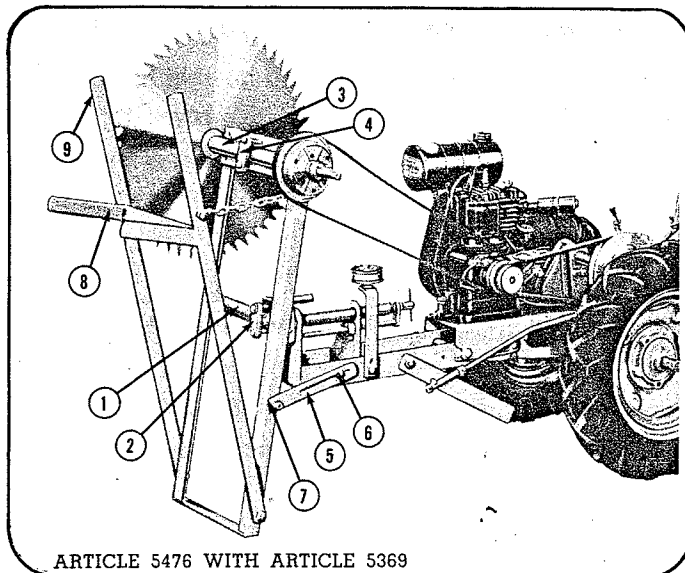

Figure 3
2. Loosen arbor clamp bolts and remove arbor. Place cradle tube (1, Fig. 3) in arbor clamp (2, Fig. 3), keeping cradle as far to the right as possible and tighten clamp bolts. See Fig. 3.
3. Place arbor (3, Fig. 3) in arbor clamp (4, Fig. 3) on top of cradle and adjust arbor pulley to line up with inside groove of engine pulley.
4. Remove cradle holder (5, Fig. 3) from cradle and attach to saw frame at (6, Fig. 3) and to cradle frame at (7, Fig. 3).
2. To use cradle place wood on support arms (8, Fig. 3). Move support arms past saw, being sure to keep hands to the right of the extension (9, Fig. 3), well away from the saw blade.